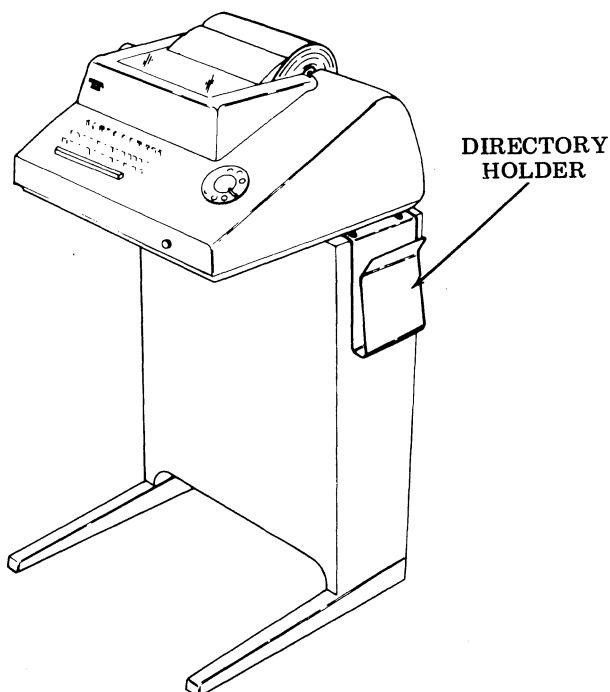

Figure 19 - Cabinet With 194822 Directory Holder
2.84 The holder attaches to the right side of the cabinet by removing backing from a double-sided adhesive tape and pressing into position. See Figure 19 and refer to Specification 50602S.